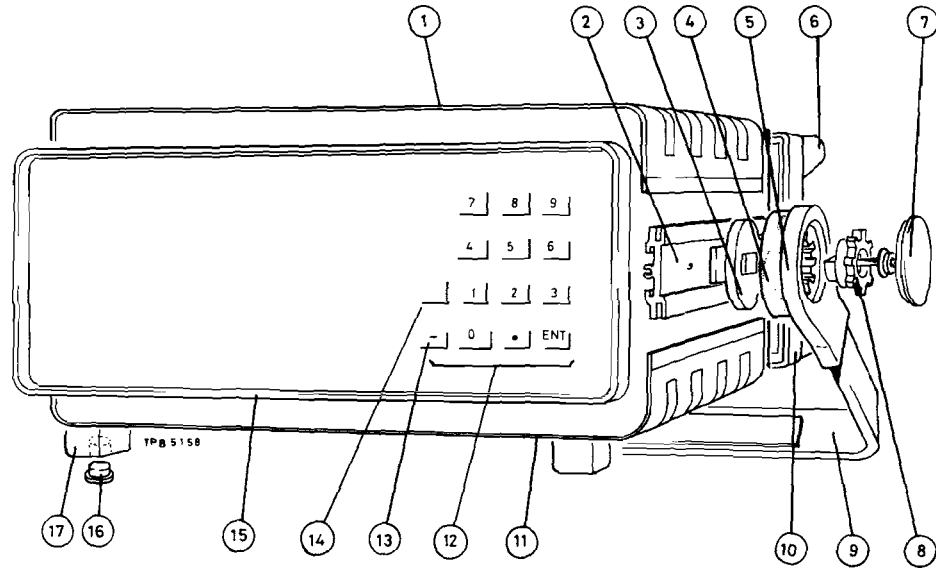

Fig. 1 Miscellaneous mechanical parts
27. Item numbers refer to Fig. 1.